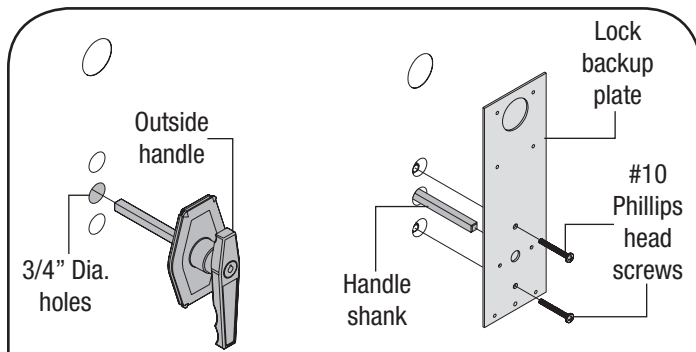

FIG. 5B
**5120/5140/6100/8300/8500/9700/9800/9100/9400/9600 & WOOD DOORS, (SEE FIG. 5A & FIG. 5B):** Align the outside handle assembly with the handle pointing towards the floor and insert the assembly through the previously drilled 3/4" diameter holes in the section. With the outside lock placed in the section, place the center lock stile over the shank of the outside lock handle, secure the center lock stile with foam tape (8300/8500/8700/9800/9700 & WOOD DOORS will use the lock backup plate with no foam tape). Secure the outside lock handle to the section by placing the (2) #10 phillips head machine screws through the lock stile into the lock section.